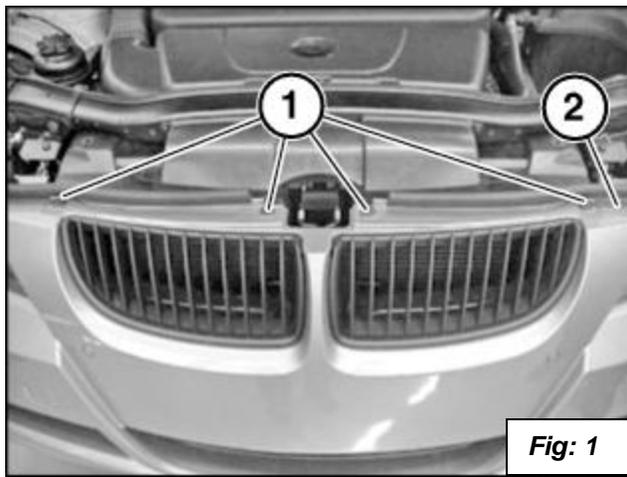

Fig: 1
3. Start by removing four Torx screws from bumper trim (2) as shown in **figure 1**.